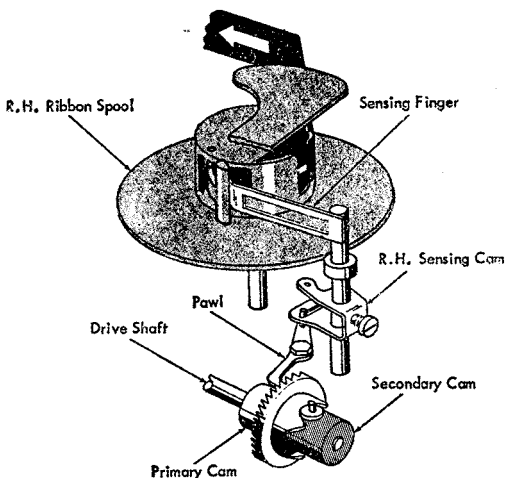

Figure 38. Ribbon Reverse, Right Spool Empty
As the right spool empties, its sensing finger engages a notch in the right-hand ribbon spool allowing the sensing-finger shaft to rotate and position a pawl between teeth of the drive-shaft primary-cam (Figure 38). As the drive shaft rotates the secondary cam, pinned to the drive shaft, climbs the high points of the now stationary primary cam. This pulls the drive shaft to the right and engages the right gears in feeding position. This movement of the shaft is also transferred to the reverse-lever, latching it under the reverse-lever latch, so as to maintain this condition.
16. RIGHT REVERSING CAM. With the reverse lever unlatched and the right sensing finger bottomed in the right ribbon-spool notch, position the right-hand cam on the sensing finger shaft so the reversing pawl bottoms between the teeth on the primary cam (Figure 38). The sensing finger should be located vertically to center between the ribbon spool flanges.